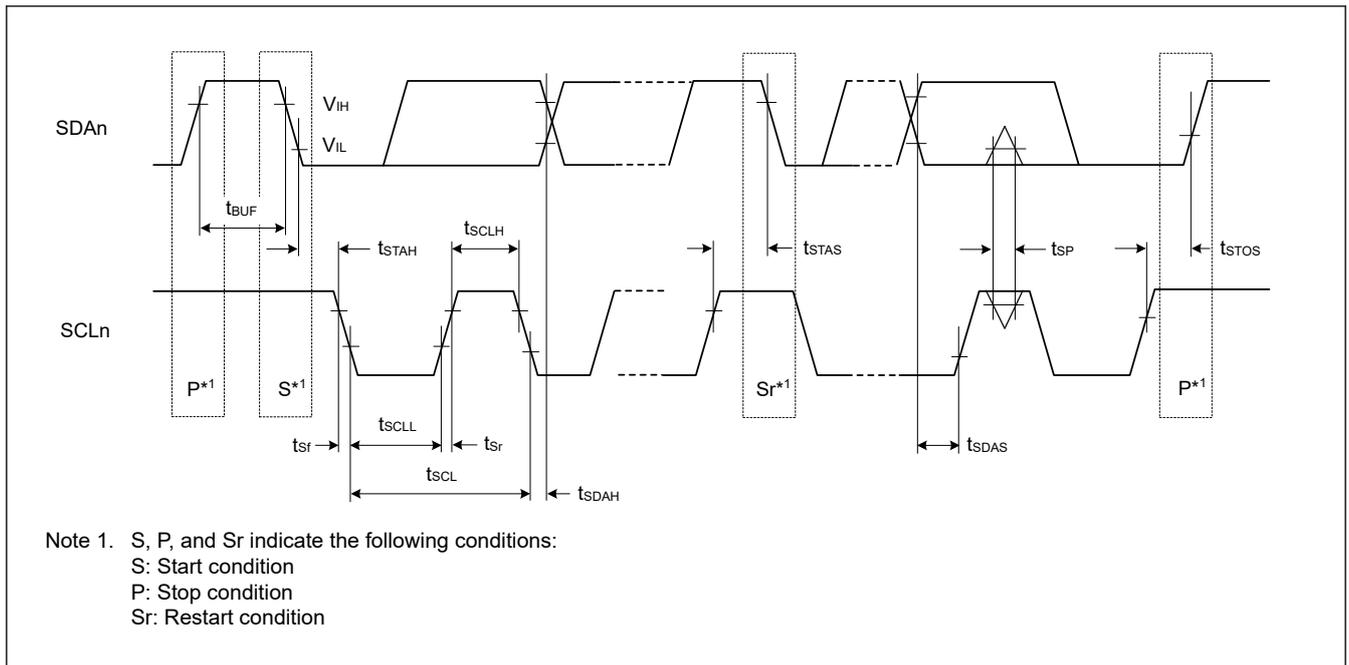

Figure 2.88 I²C bus interface input/output timing
| IIC (Fast mode) ICFER.FMPE = 0 | SCL input cycle time | 2.70 V or above | $6(12) \times t_{IICcyc} + 600$ | — | ns | Figure 2.88 |
| IIC (Fast-mode+) ICFER.FMPE = 1 | SCL input cycle time | 2.70 V or above | $6 (12) \times t_{IICcyc} + 240$ | — | ns | Figure 2.88 |